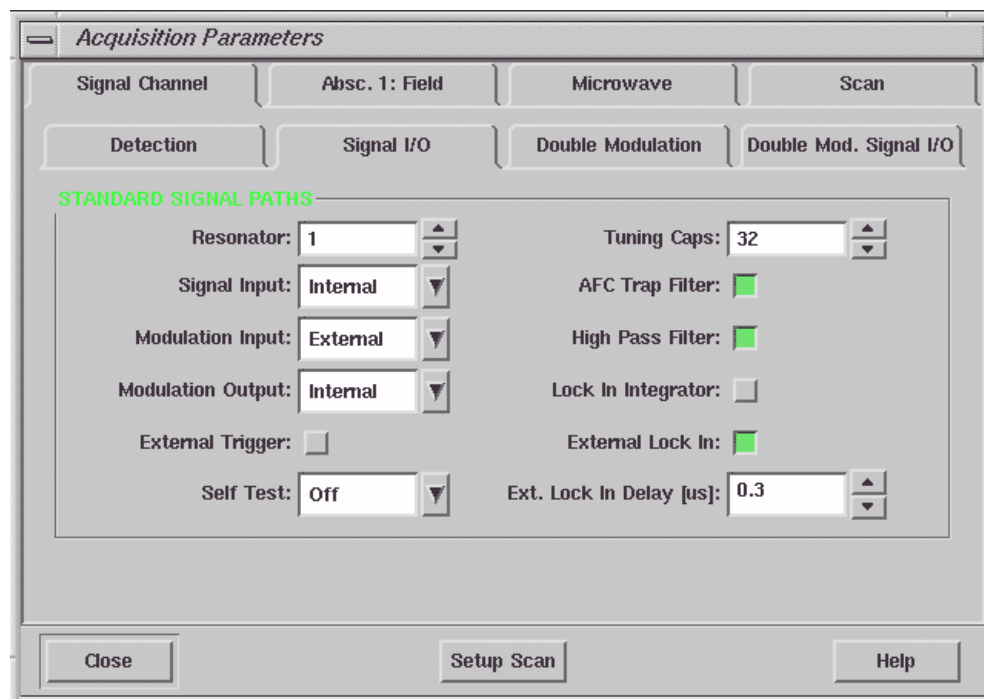

Figure 14-17 Parameter setup for external modulation.
2. **Enable external modulation.** Open the Parameter dialog box and click the Signal I/O tab of the Signal Channel folder. (See Figure 14-17.) Select External from the Modulation Input drop-down list. Click External Lock In to activate it (green). You must change the modulation phase by using an external phase shifter. The Ext. Lock In Delay does not change the phase in this case as it does for double modulation.